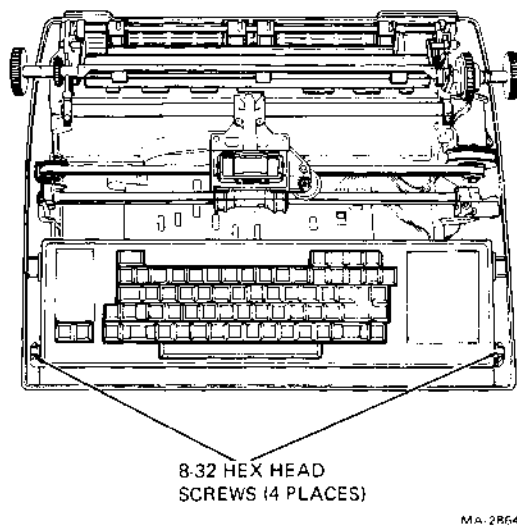

Figure 7-13 Printer Mechanism Removal
4. Remove the four hex-head screws that secure printer mechanism to base (Figure 7-13).
5. Remove the four hex-head screws securing the print mechanism to the base assembly (Figure 7-13).